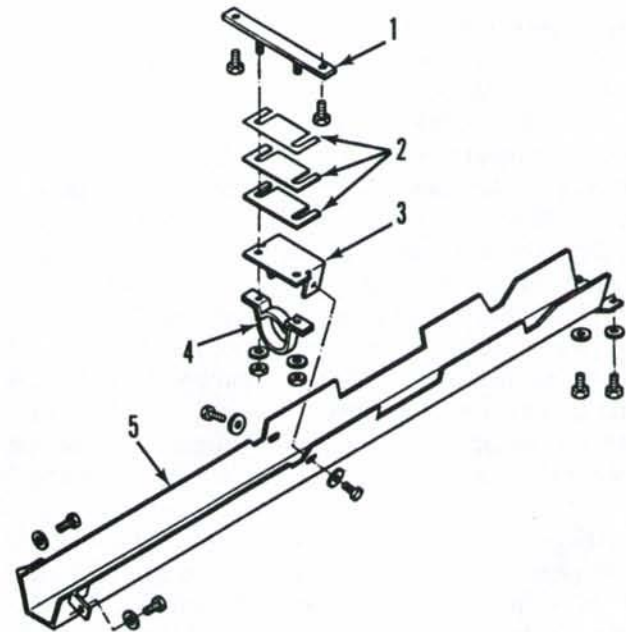
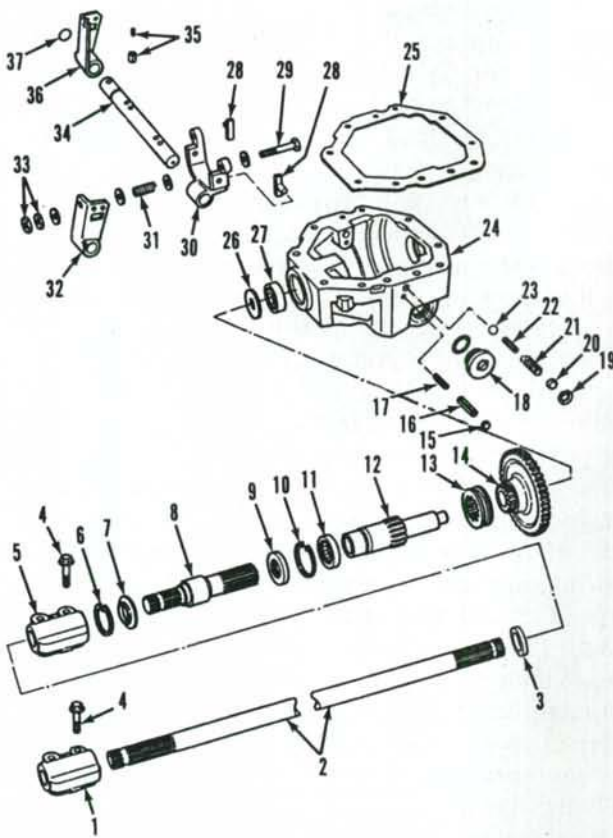
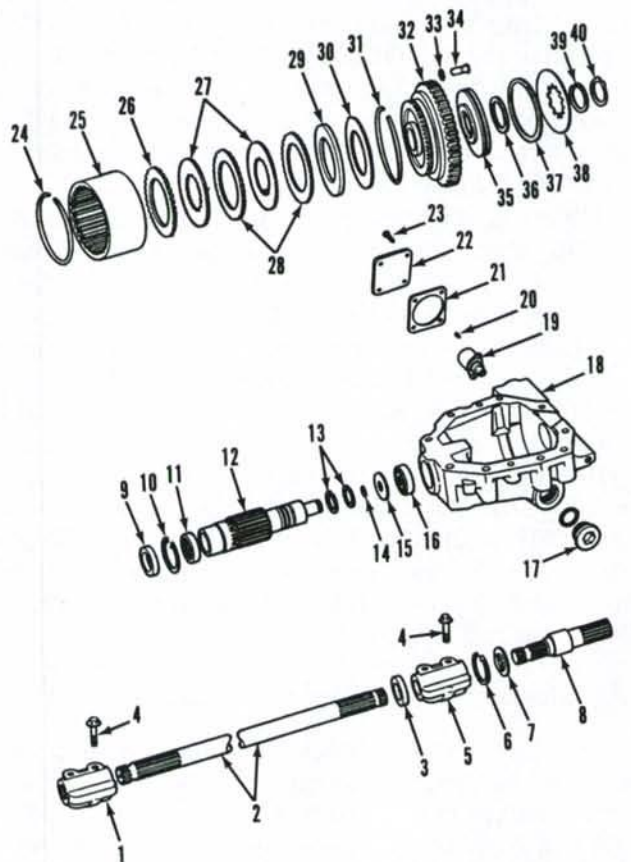

Fig. 28—View of front drive shaft shield and relative components.
Fig. 29—Exploded view of drive shaft and mechanical shift (dog clutch) transfer case used on some models.
Fig. 31—Exploded view of front drive shaft and transfer case with electric/hydraulic multiple disc clutch used on some models.
16. REMOVE AND REINSTALL. To remove the front drive shaft (2—Figs. 29 and 31), first remove drive shaft shield as follows: Block rear wheels securely and apply park brake. Refer to Fig. 28 and remove shield center bolts. Loosen shield rear bolts and place a support under shield (5). Remove shield front bolts, then remove the shield.
Remove front coupler cap screws (4—Fig. 29 and 31) and move front coupler rearward on drive shaft (2). Remove rear coupler cap screws (4) and pry rear coupler (5) forward on drive shaft. Support drive shaft assembly, remove support bar (1—Fig. 28) bolts and lower assembly from tractor. Remove nuts and washers and separate bearing retainer (4), shield support (3), shims (2) from support bar (1). If bearing (3—Figs. 29 and 31) is loose, noisy or rough, remove coupler (1 or 5) and remove bearing (3) from drive shaft (2). If bearing seat on drive shaft is worn, reverse ends of drive shaft when installing bearing.
When reassembling, install bearing on drive shaft in correct position and install the removed coupler so that bolt holes on both couplers align. Install bearing retainer (4—Fig. 28), shield support (3), shims (1) and support bar (1) on drive shaft bearing (3—Figs. 29 and 31). Do not tighten nuts at this time. Raise drive shaft assembly in place and tighten support bar (1—Fig. 28) bolts. Slide couplers on drive pinion shaft and transfer case output shaft. Align cap screw holes with grooves on shafts. Install coupler cap screws and tighten to a torque of 130 ft.-lbs. (175 N·m). Attach and zero a dial indicator against the bottom of drive shaft near the bearing. Tighten bearing retainer nuts and check drive shaft deflection on the dial indicator. Alignment is correct when a deflection of 0-0.002 inch (0-0.05 mm) is obtained. Change shims as necessary to obtain this deflection. Shims (2) are avail-
Two types of transfer gearboxes have been used. One type is the mechanical shift (dog clutch) shown in Fig. 29. The other type is equipped with an electric/hydraulic operated multiple disc clutch (Fig. 31). The clutch is engaged by three Belleville springs when hydraulic power is switched OFF. When hydraulic power is switched ON, the piston collapses the Belleville springs and clutch is disengaged.
17. R&R AND OVERHAUL. To remove the transfer gearbox, first remove drive shaft shield and front drive shaft as outlined in paragraph 16. Then, remove plug (18—Fig. 29) and drain oil. Drive out roll pin and remove shift lever from gearbox. Place a floor jack under gearbox, unbolt and carefully lower gearbox from tractor.
Reinstall transfer gearbox, using new gasket (25—Fig. 29). Tighten retaining bolts to a torque of 90 ft.-lbs. (120 N·m). Install shift lever and secure with roll pin. Reinstall front drive shaft and drive shaft shield as outlined in paragraph 16. Check transmission oil level and refill as necessary.
18. R&R AND OVERHAUL. To remove the transfer gearbox, first remove drive shaft shield and front drive shaft as in paragraph 16. Remove plug (17—Fig. 31) and drain oil. Disconnect electrical conduit pipe from union near solenoid cover, then remove the un-